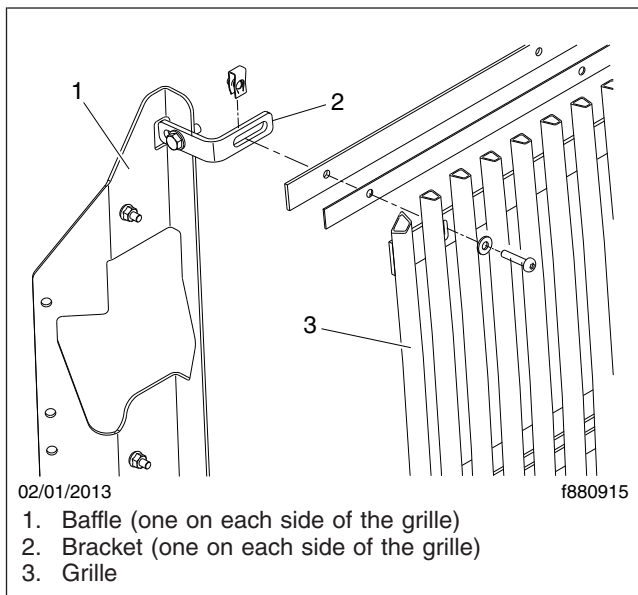

Fig. 7, Grille Assembly
9. Remove the baffles and mounting brackets located on both sides of the grille. See Fig. 7.